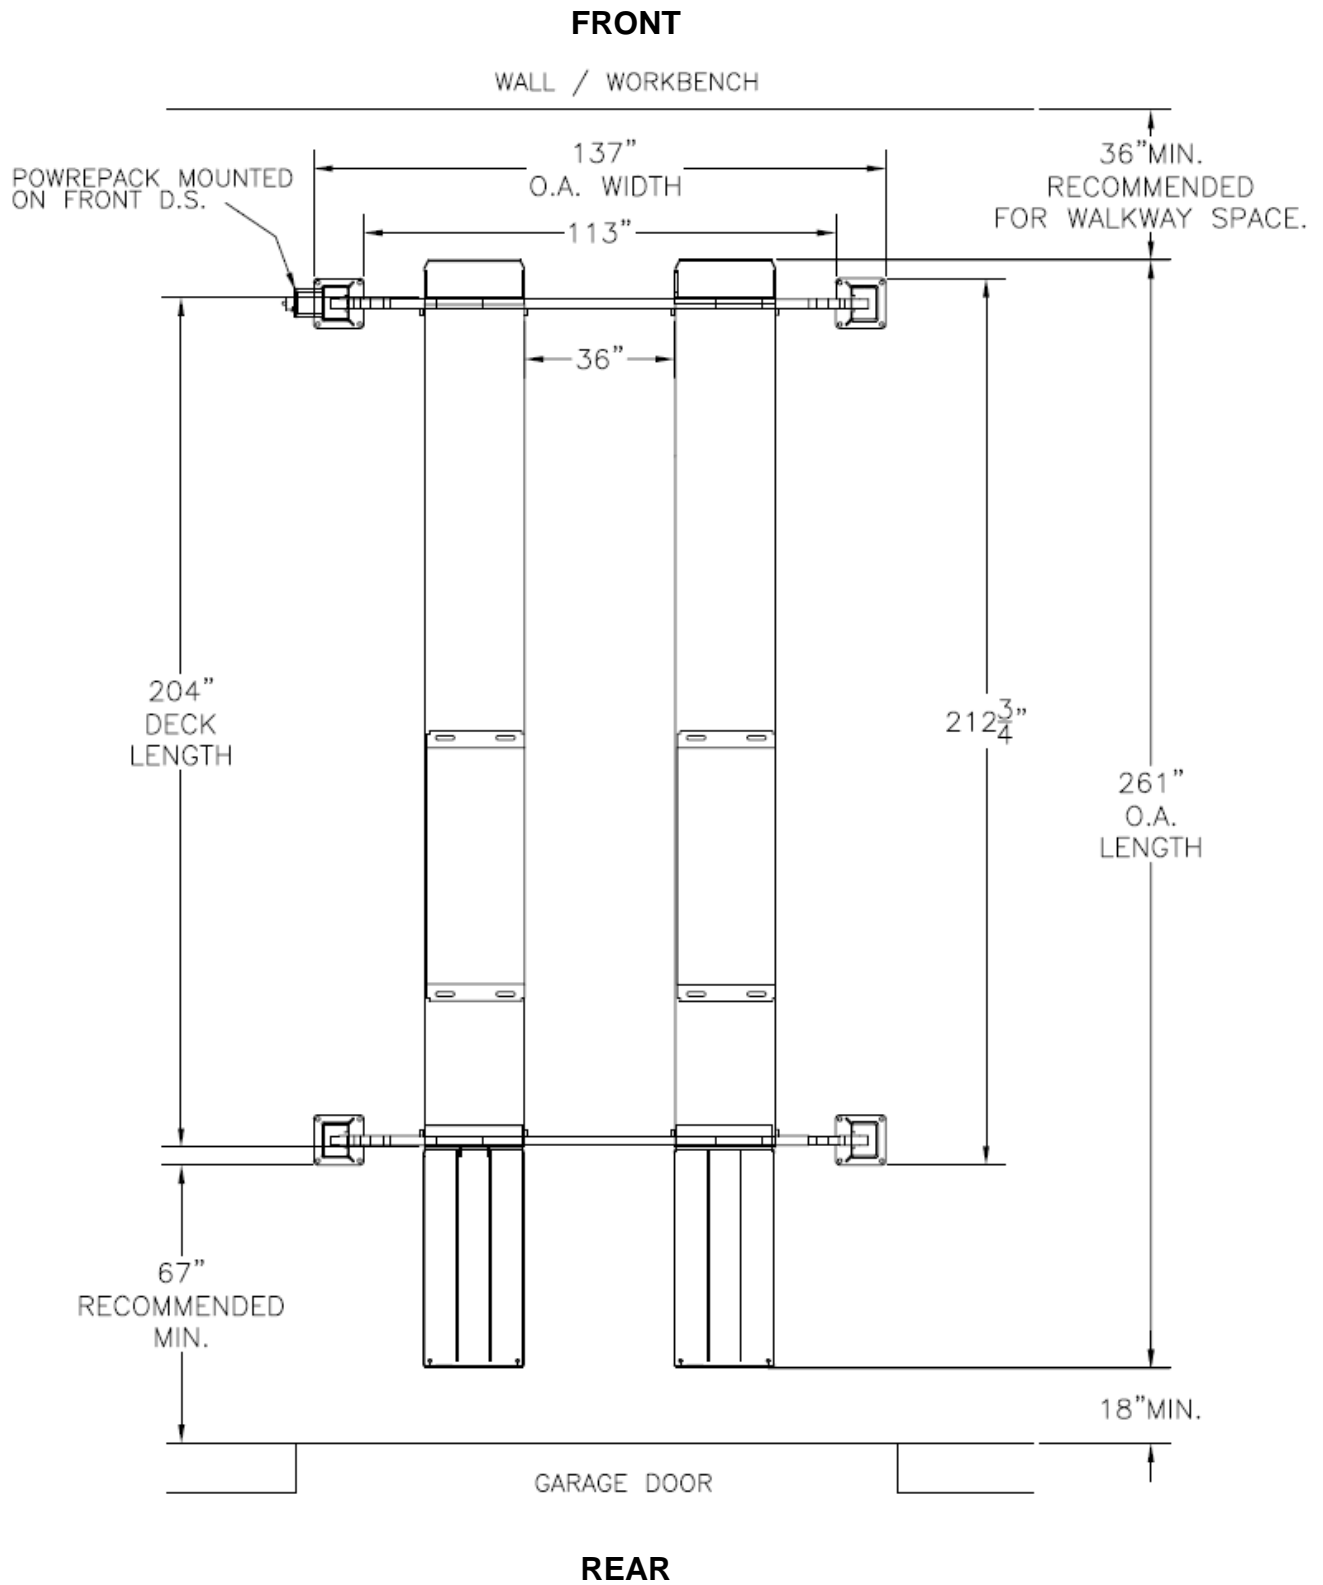
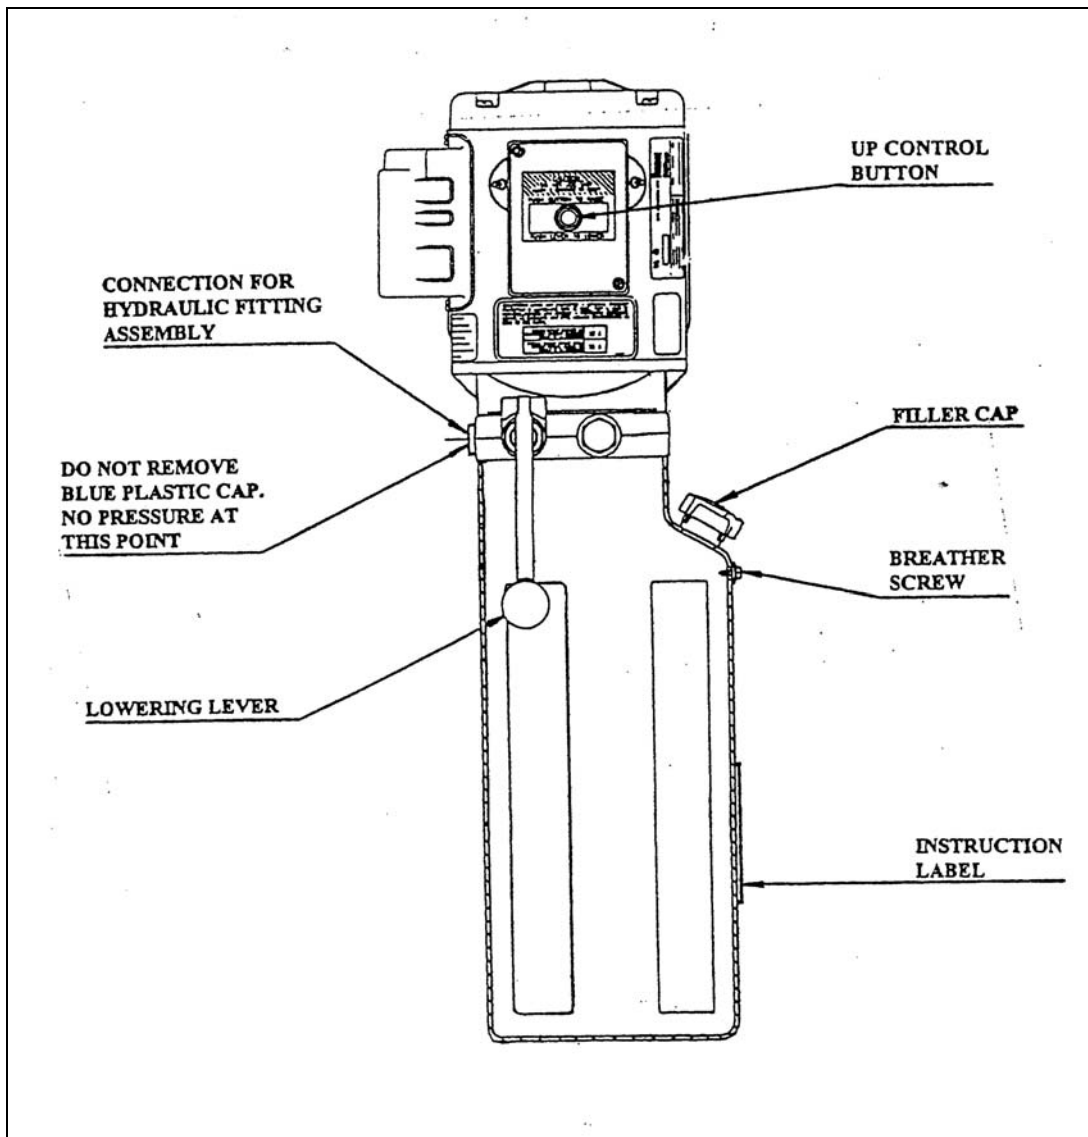

Figure 1. Plan view for main lift structure
Figure 6. Power pack details
- An outline matching the dimensions listed below will need to be marked on the floor. Refer to Figure 1 General Lift Specifications for overall lift dimensions.
Figure 1. Make a chalk line parallel to the doorway at least $279\frac{3}{4}$ " in from the doorway. This will be the furthest front face of the front post baseplate location. Call this line "A". Determine the center of the doorway and bay. Make a centerline to intersect with line "A". Measure from the centerline along line "A" $60\frac{1}{2}$ " in both directions. This will be the location of the inside face and front face of the front posts. Measure back from this line "A" $212\frac{3}{4}$ ". Make a chalk line parallel to line "A". Call this line "B". This will be the location for the back face of the rear post baseplates. Measure from the centerline along line "B" $60\frac{1}{2}$ " in both directions. This will be the location of the inside face and back face of the rear posts. Position work stands inside of line "A" and "B" of outline, to support the front and rear of each deck assembly.
- Stand posts into position according to Figure 1
- Install the threaded stud end of the cables through the top of the post. Use a 7/8" flat washer, and two (2) 7/8"-14 UNF hex nuts with cable spacers as required, to compensate for uneven floors.
- Bolt the power pack to the mounting bracket on the front face of the left front post using four (4) 5/16"-18UNC × 1"LG. hex head bolts and four 5/16" lockwashers. Refer to Figure 6.